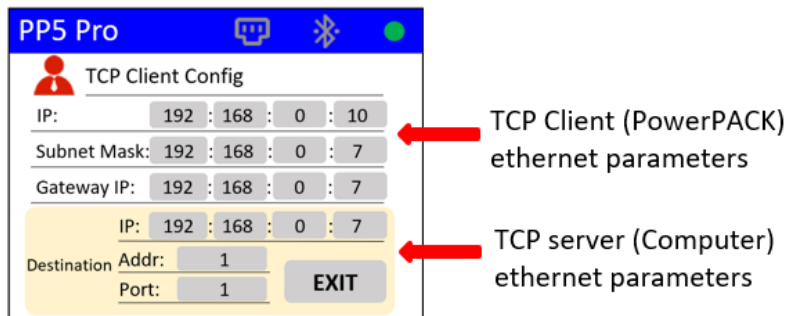

Figure. 11
4. In **TCP Client Config** screen, you can specify an IP address for your computer, as shown in figure 11, make sure the PowerPACK and computer are on the same network subnet. For example, if the IP address of the PowerPACK Pro-5 is 192.168.0.10, the IP address of the computer may be 192.168.0.x (where x can be any number between 1 to 250).
5. Connect the PowerPACK Pro-5 RJ-45 port to your computer with an Ethernet cable and set your computer IP address according to the TCP server IP address, as shown in figure 11.